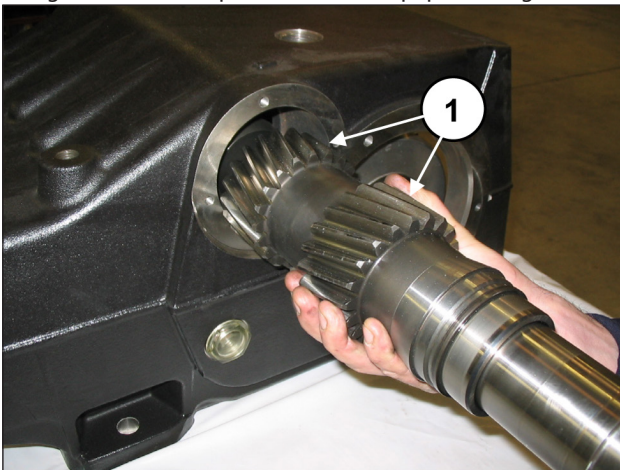

Fig. 55
Insert the pre-assembled PTO shaft into the casing (pos. ①, Fig. 55). Insert it from the other side to the side where the external bearing ring and the bearing lubrication bush were inserted.
The PTO shaft must be inserted into the casing so that the teeth are oriented as shown in Fig. 55.